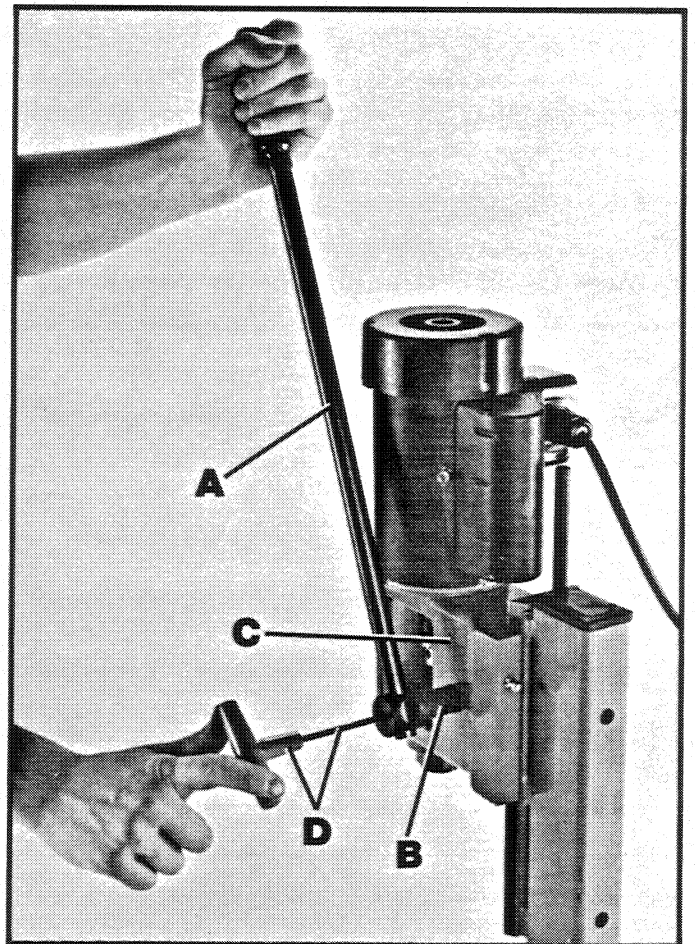

Fig. 3
2. Insert raising and lowering handle (A) Fig. 3, into hole in pinion shaft (B). Raise head (C) to the up position and lock handle (A) in pinion shaft by tightening screw with wrench (D), as shown.